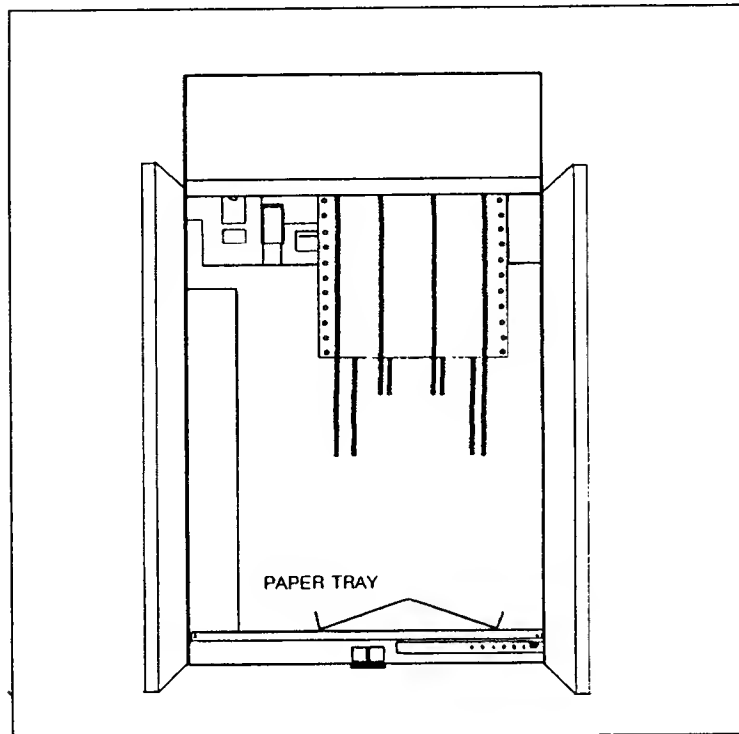

Figure 2-21. Paper Tray and Chains.
- j. Open the enclosure doors. Center the paper tray directly against the back of the printer and under the paper (Figure 2-21).
- k. Make sure all eight chains hang freely inside the basket (Figure 2-21).